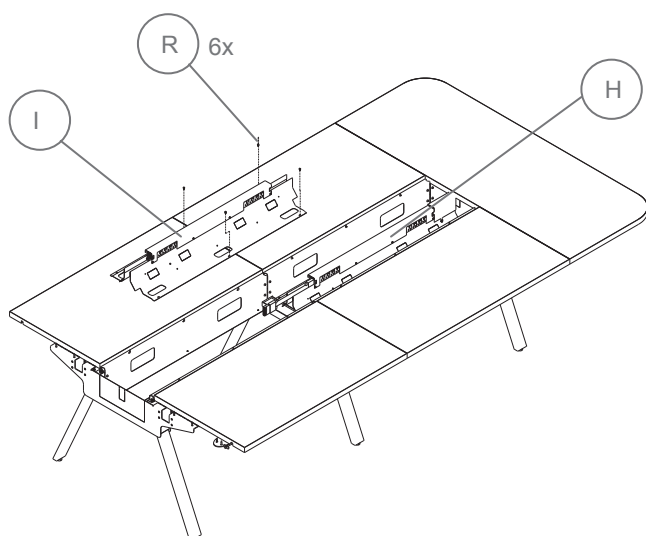

Figure 7.1
3. Secure Power Raceways to the Desktop Support Rail with 8-32 machine screws (see figure 7.1).